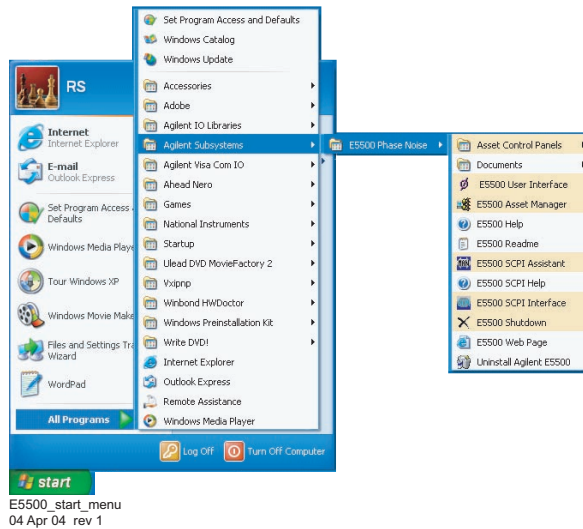

Figure 4 Navigation to the E5500 user interface
- 2 Using Windows® Start menu as in Figure 4, navigate to the **E5500 User Interface**.